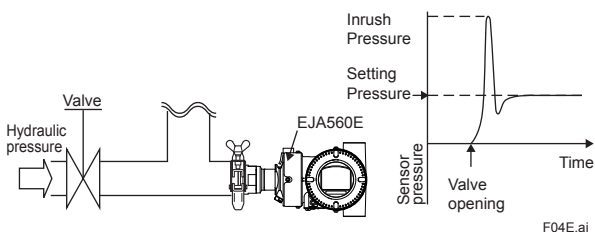

Figure 3. Inrush Pressure When Installed to the Bending Pipe
- Inrush pressure when installed to the bending pipe (Figure 3)